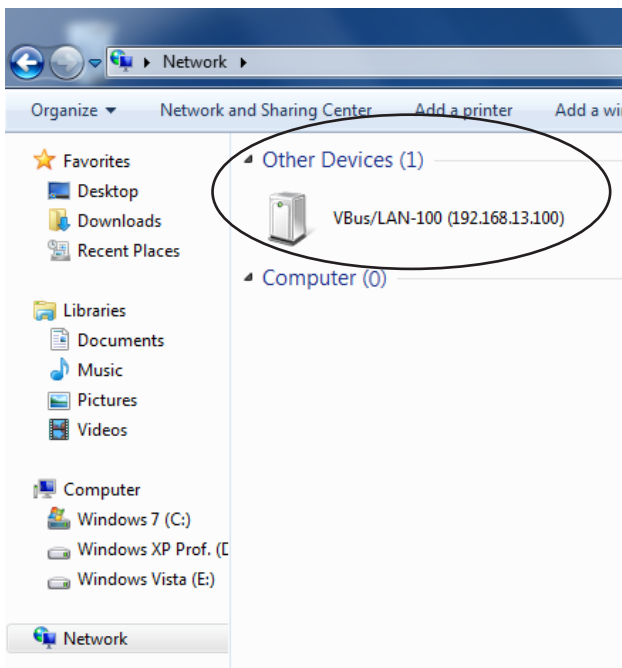

Fig. 6
- The VBus®/LAN interface adapter appears under **Other Devices** (Fig.6; XP: My Network Places).